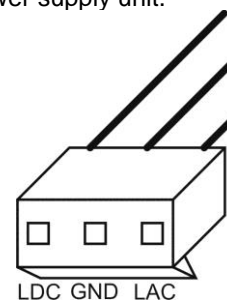

Fig.4 Leads in the indication connector.
4. Cut the leads of the signal connector in the PSB 13,8V power supply unit, separate and connect to the module, following the diagram. Connect the Lac, Ldc, GND leads of the PSU with appropriate outlets on the automation module. (see fig. 4).